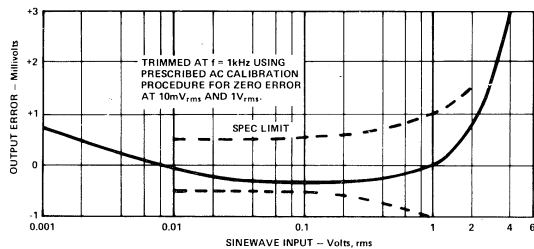
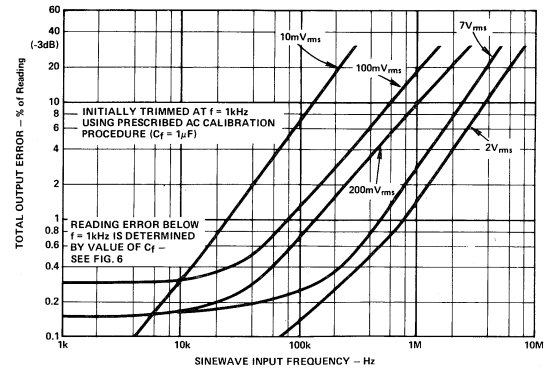

Figure 4. Trimmed Output Error Versus Sinewave Input Level ($f = 1kHz$)
Figure 5. Trimmed Output Error at High Frequency Versus Input Signal Level
1. Ground pin 8 and adjust R_O for $e_o = 0$ volts. Figure 4 illustrates the results of using the AC CALIBRATION PROCEDURE for zero error at 10mV_{rms} and 1V_{rms}.
Model 442's excellent wideband performance shown in Figure 5 results from its high speed input stage and from the use of reduced values of critical circuit resistance to minimize frequency response degradation due to stray capacitance. A special compensation circuit is also incorporated to extend the bandwidth for low level signals. Model 442 is optimized for operation from 10mV_{rms} to 2V_{rms} input levels, making it ideal for DVM applications.
The cross-over of the 100mV_{rms} and 200mV_{rms} curves with the 10mV_{rms} curve in Figure 5 results from the nonlinearities that remain after performing the AC CALIBRATION PROCEDURE — refer to Figure 4.